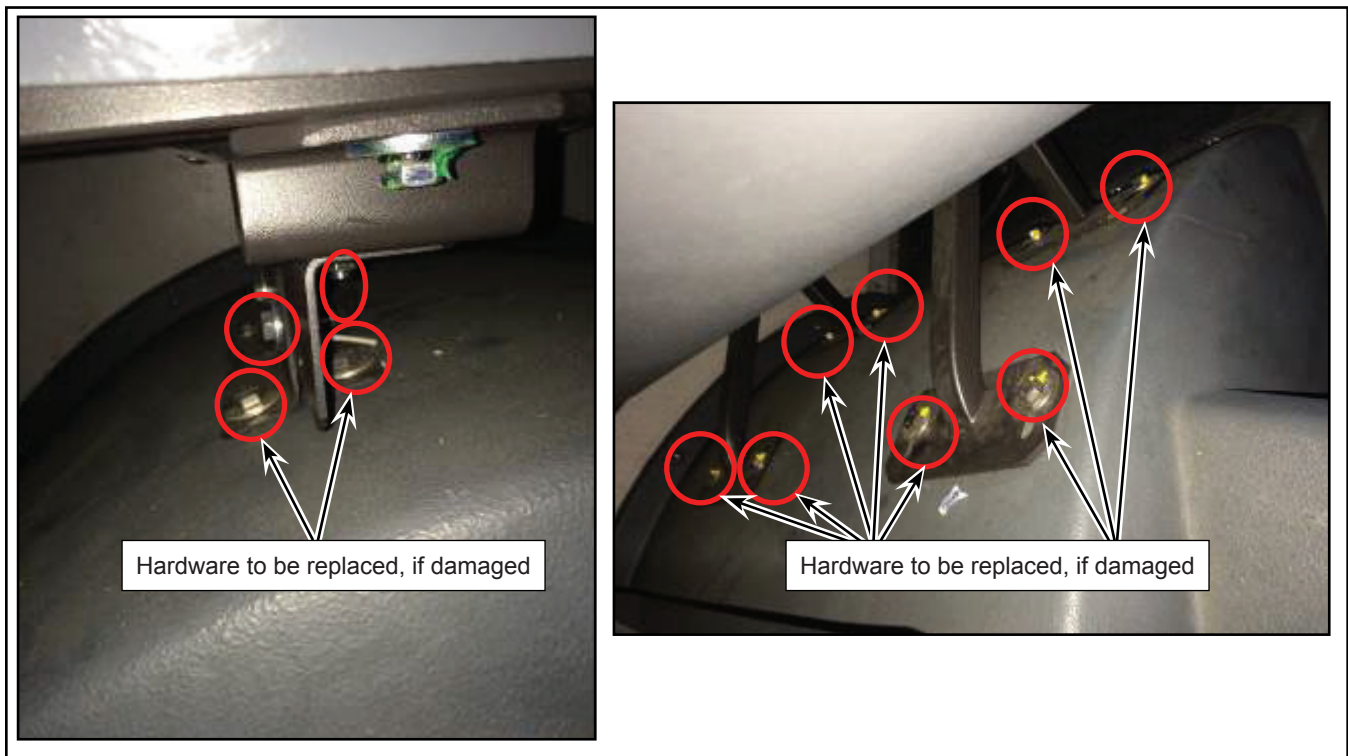

Figure 24 - Installation of Damaged Hardware
- 2.23. Replace the damaged hardware with new hardware provided (see Figure 24).